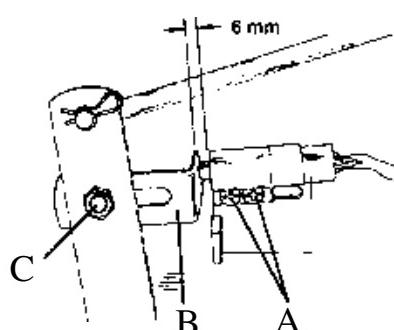

Figure 6.17 Cutterhead safety switch.
2. Loosen the two safety switch retaining screws (A) and position the safety switch forward in the mounting bracket slot. Figure 6.17.
5. Check that the clearance between the spring tab (B) and the safety switch body is 6mm. If not correct loosen the retaining bolt (C) and position the spring tab to give correct clearance. Tighten the spring tab retaining bolt. Figure 6.17